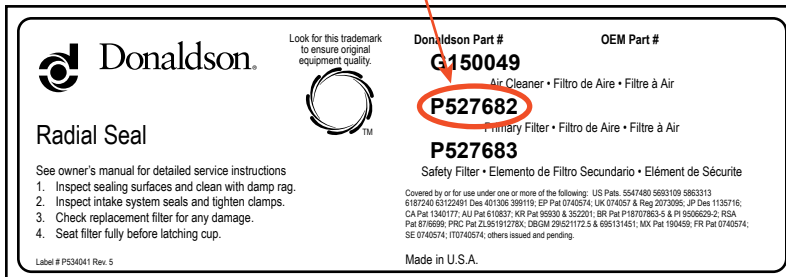

Figure 1
- Identify the replacement part number for the air filter element. The replacement part number is shown on a decal, applied to the air filter assembly (Figure 1).
NOTE: The part number for the air filter element may be different than the part number shown in Figure 1.